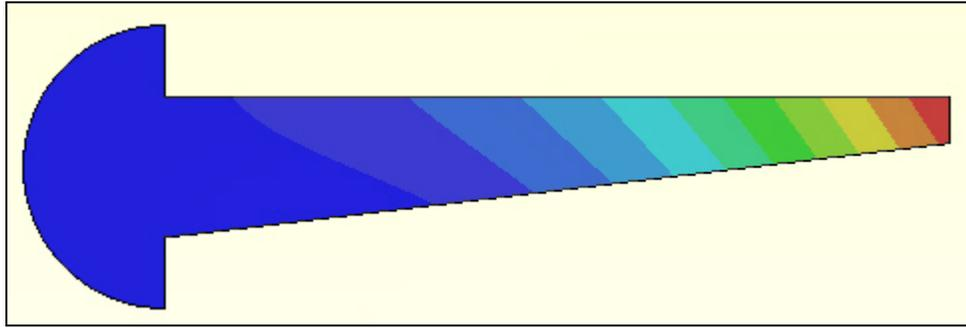

Figure 3 Relative buckling mode displacement values
1. When the solution completes, pick **Displacements**→**Plot1** and examine the resultant displacement URES. Note that the displacement contour curves in Figure 3 are inclined to the long axis of the beam instead of being vertical as before.